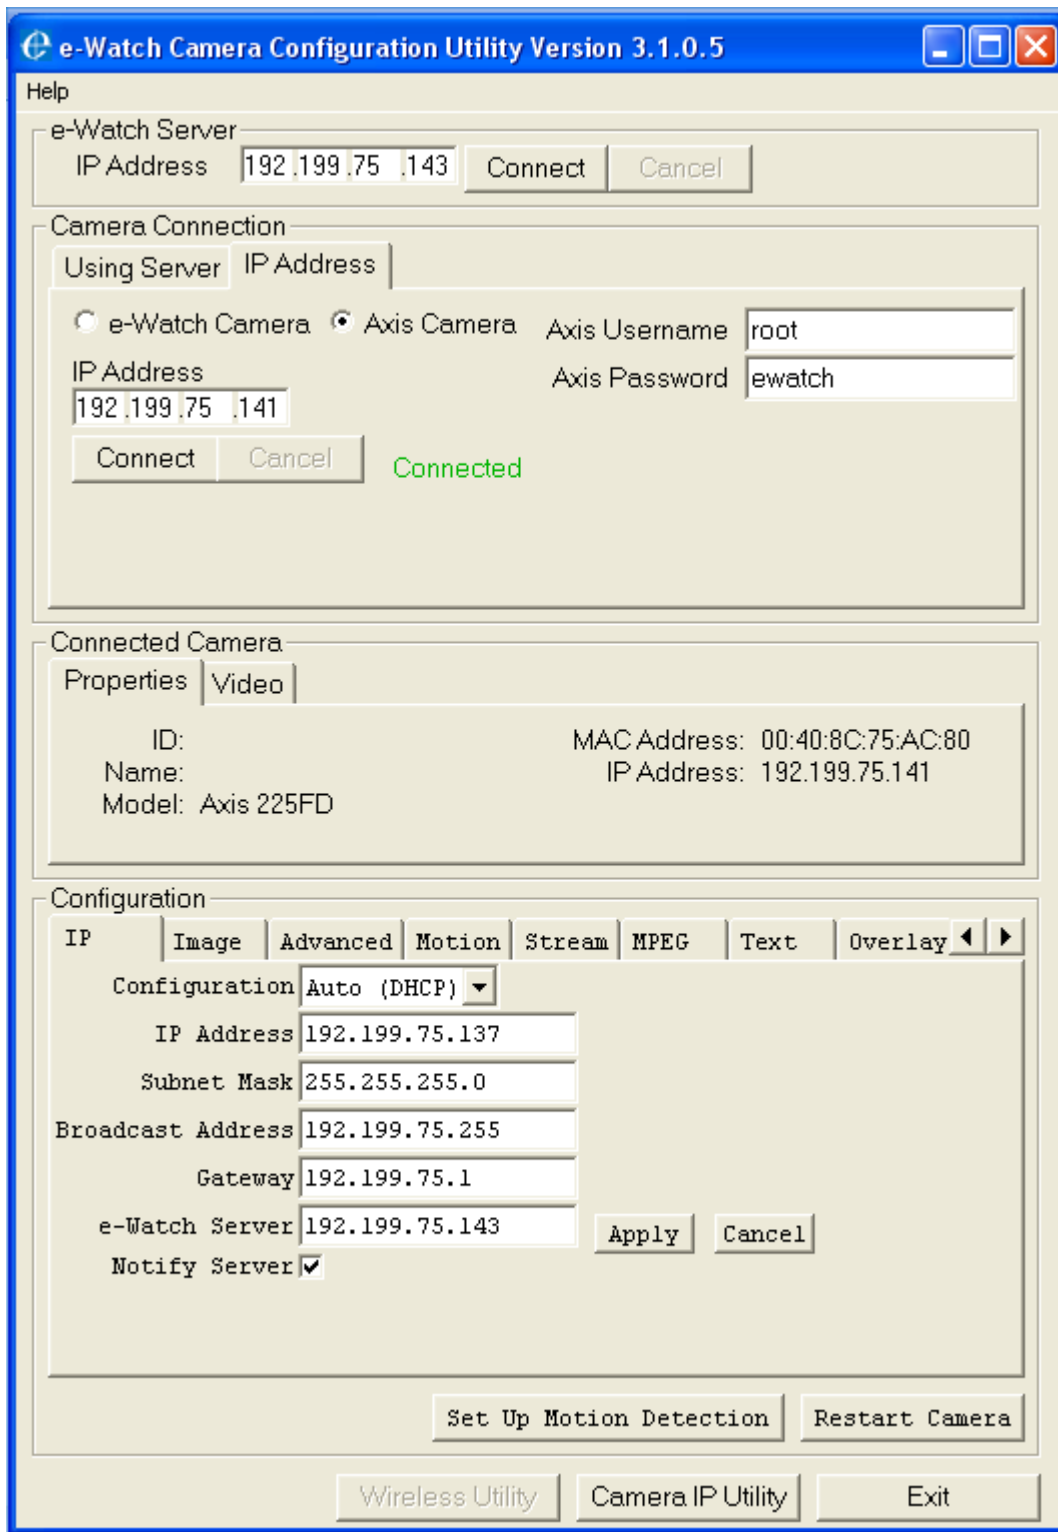

Figure 4-5. Connecting Axis Camera Using e-Watch Camera Configuration Utility
You can also accomplish this task using the e-Watch Camera Configuration Utility. See Figure 4-5.
- Figure 4-5. Connecting Axis Camera Using e-Watch Camera Configuration Utility 13